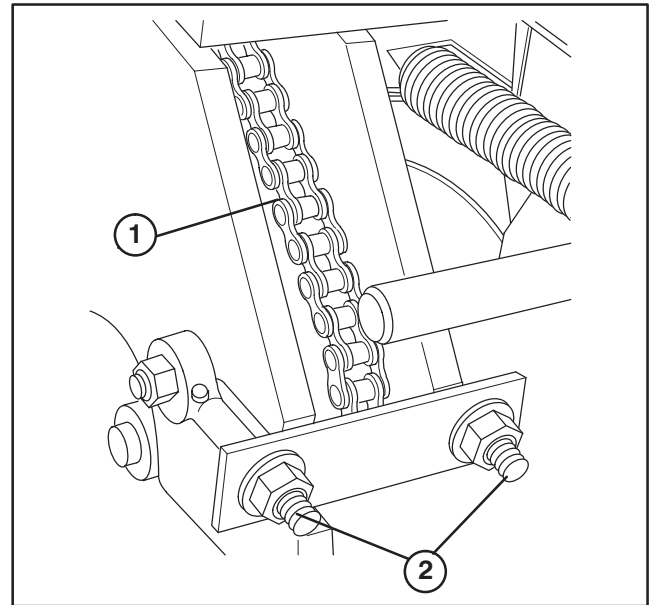

Figure 37
1. Depress chain in span between the idler sprocket and upper crank arm sprocket. Applying 8–12 lbs. of force on designated area, chain should deflect approximately .25 inch (Fig. 37)
2. Tighten or loosen each eyebolt nut to increase or decrease chain tension. Make sure each eye bolt is adjusted equally (Fig. 37).
4. To make sure eyebolts are adjusted equally, measure distance from center of idler shaft to center of upper crank shaft on both sides of shaft (Fig. 37).